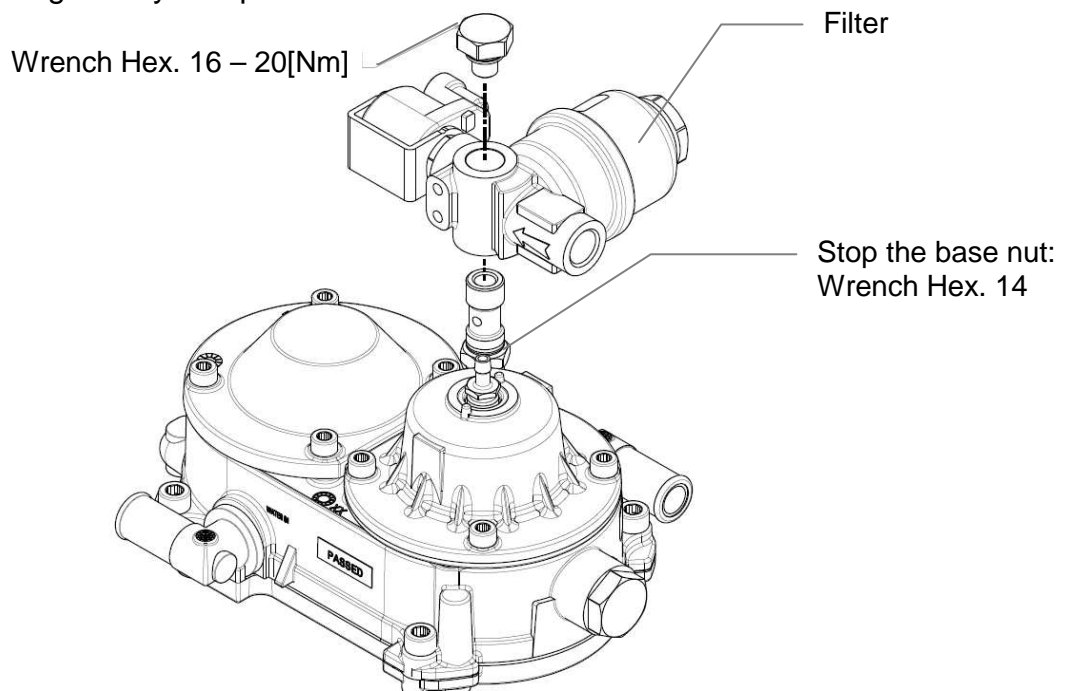

Fig. 2
While stopping the base nut with a 14mm Allen wrench, use another 16mm Allen wrench to unscrew (20Nm) the hex nut on top of filter (Fig.2). Once loose, pull out the filter: there's no need to disconnect LPG copper pipe (II). Now the pressure regulator is free to be removed from the engine bay and placed on a flat surface.